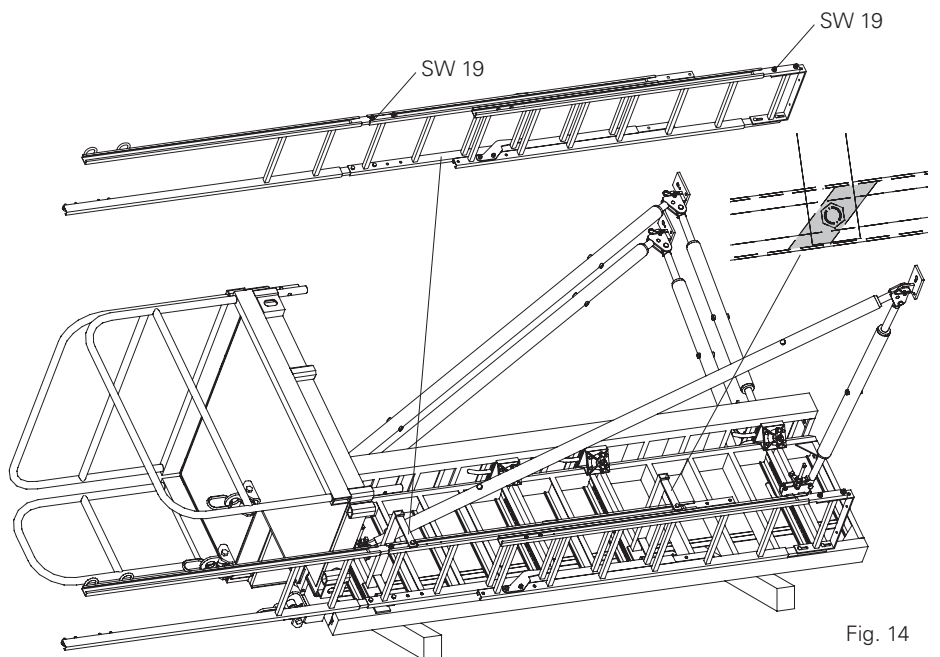

Fig. 14
- mount ladder base and ladder hook on bottom ladder, SW 19. Fig.14